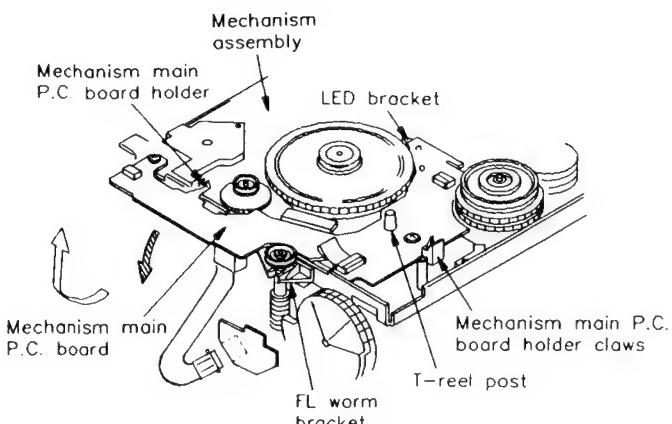

Fig. 4-15-5
- Unhook the mechanism main P.C. board from the mechanism main P.C. board holding claws on the front mechanism assembly and lift the mechanism main P.C. board slightly. (Fig. 4-15-5 and 4-15-6)
- Turn the mechanism main P.C. board in the direction shown by the shaded arrow as shown in Fig. 4-15-5, and remove the P.C. board from the mechanism main P.C. board holder section. In this case, the P.C. board will close to the F/L worm bracket, so slightly lift the P.C. board so that the P.C. board does not touch the worm bracket. Also take care not to damage the main P.C. board holder. Finally, remove the mechanism main P.C. board, paying attention not to touch the reel post.